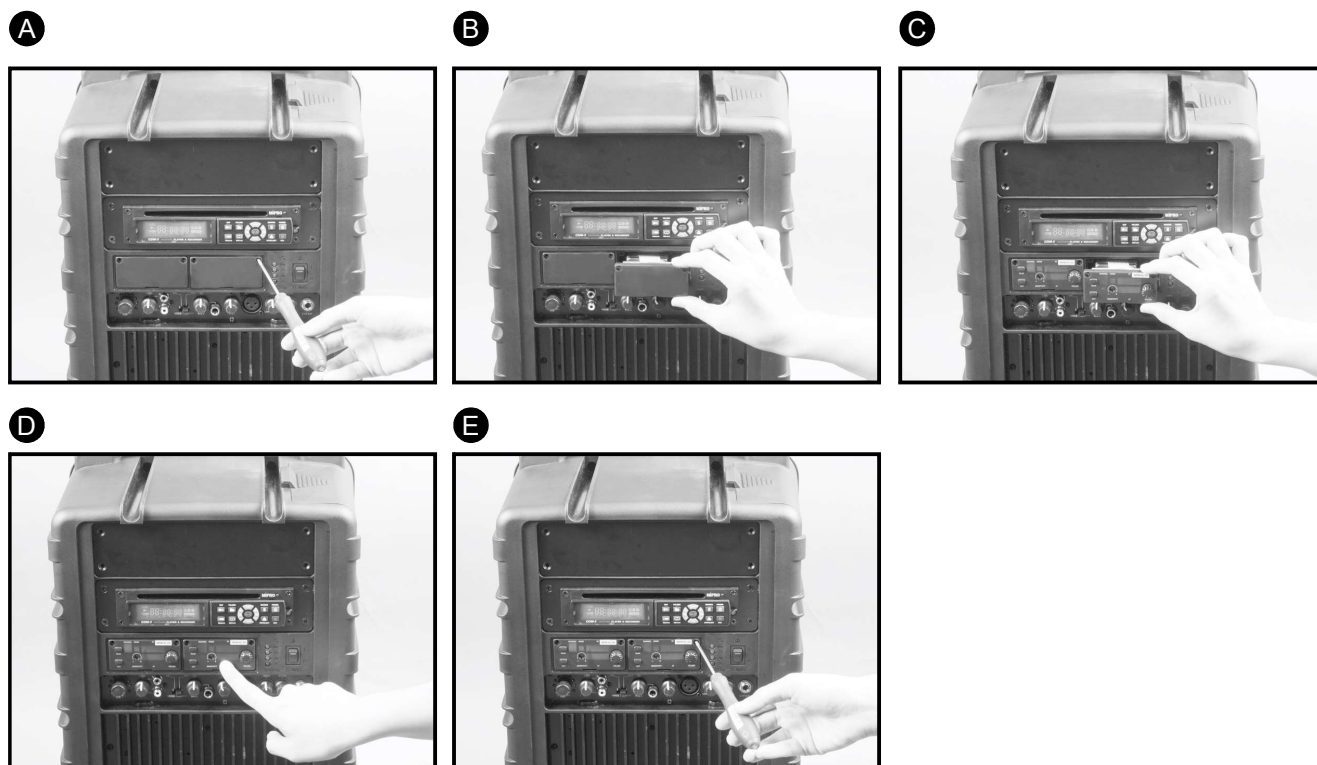

Fig. 13
2. Installation or replacement of wireless receiver modules, Fig. 13.
- (A) Using a Phillips-head screwdriver (not supplied) remove the screws to remove receiver protection cover panel. (see fig. **(A)** & **(B)**)
- (B) Gently insert the receiver module into the slot. Make sure the back edge connector is aligned and firmly connected. (see fig. **(C)** & **(D)**)
- (C) Tighten up the screws. (see fig. **(E)**)